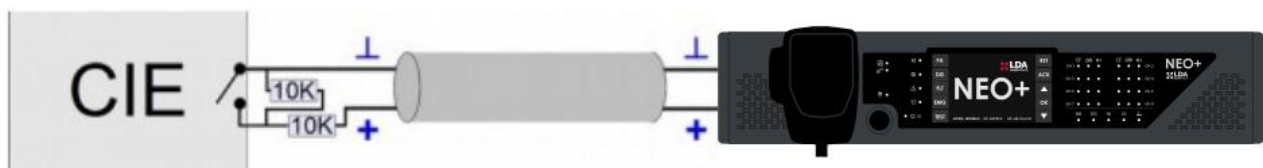

Figure 9: Connection to Supervised ECI
Enables the activation and deactivation of the emergency operating mode for the entire system. Consists of two monitored inputs for voltage-free shutdown contact connection: Reset and Emergency. In order to monitor the link, the connection of the contacts to the equipment must be made by two external resistors of 10 kΩ (supplied with the equipment), placed at the exit of the ECI as shown in figure 9.
Allows to set up eight user defined evacuation sequences. By default, each input activates the emergency state in each area of the system. Consists of eight monitored inputs for voltage-free (NO) shut-off contact connection. In order to monitor the link, the connection of the contacts to the equipment must be made by two external resistors of 10 kΩ (supplied with the equipment), placed at the exit of the ECI as shown in figure 9.